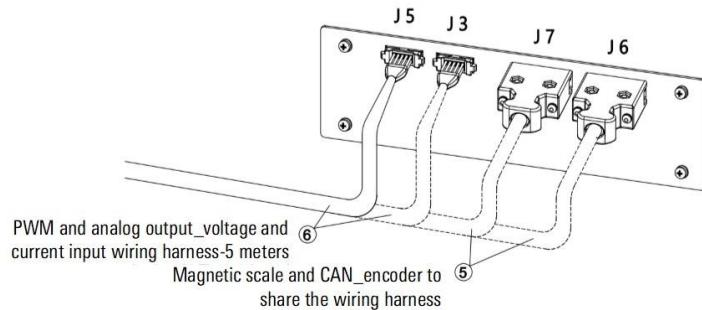

Figure 2-20 MCBS-IEB front view
Step5. Connect the outside wires of the cabinet according to the functions used, refer to Figure 2-20:
- Use PWM output and analog output signals: use ⑥ PWM and analog output\_voltage and current input harness-5 meters coupled to J5;
- b) Use voltage input and current input signals: use ⑥ PWM and analog output\_voltage and current input wiring harness-5 meters coupled to J3;
- c) Use encoder signal: use ⑤ magnetic scale and CAN\_encoder to share the wiring harness coupled to J7;
- d) Using magnetic scale and CAN signal: Use ⑤ magnetic scale and CAN\_encoder to share the wiring harness coupled to J6.